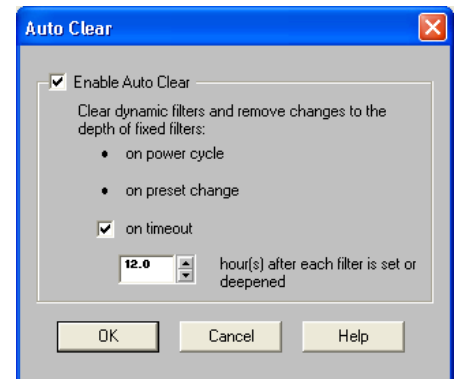

FIGURE 7-15: “Auto Clear” Dialog
By default, the DFR saves the state of its filters during a preset change or power cycle. However, you can configure the DFR to automatically remove dynamic filters and changes to the depth of fixed filters according to parameters that you specify in the “Auto Clear” dialog, pictured below in Figure 7-15. Access this dialog by clicking the [AUTO CLEAR] button in the DFR window.
4. The “Auto Clear” dialog opens, as pictured in Figure 7-15.